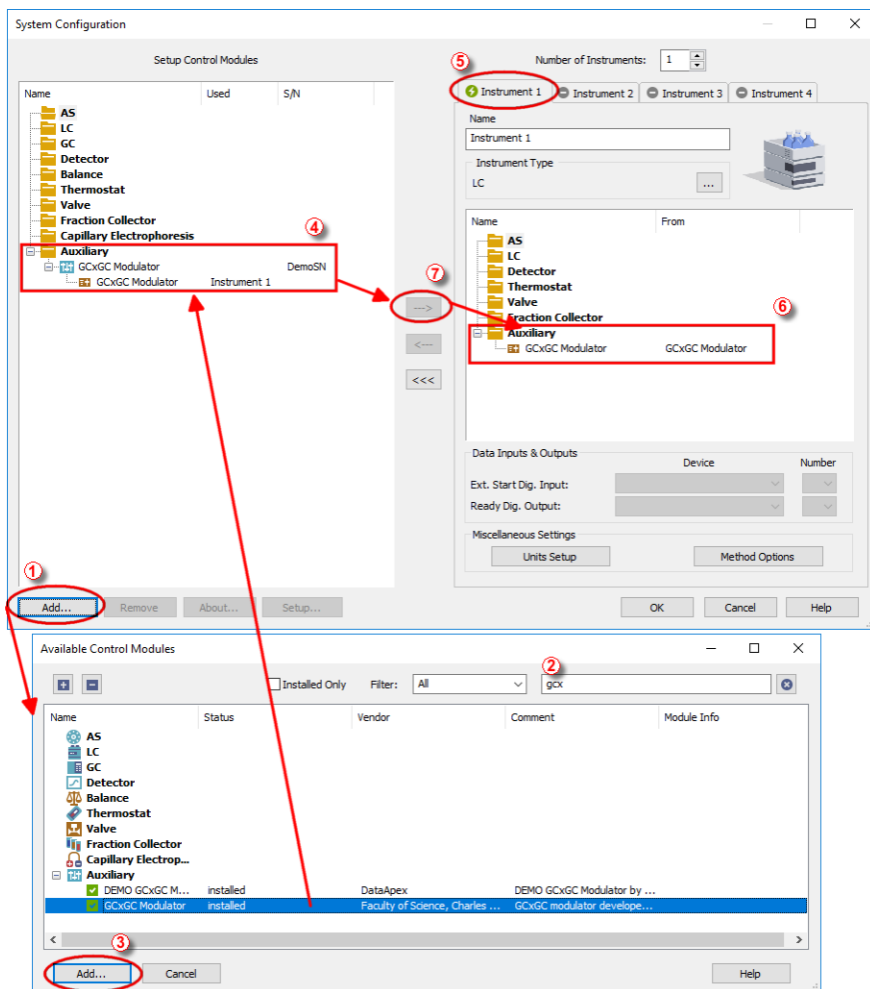

Fig 3: System Configuration
- Press the **Add** button ① (See **Fig 3** on pg 4.) to invoke the **Available Control Modules** dialog.
- You can specify the searching filter ② to simplify the finding of the driver.
- Select the **GCxGC Modulator** item in the *Auxiliary* section and press the *Add* ③ button.